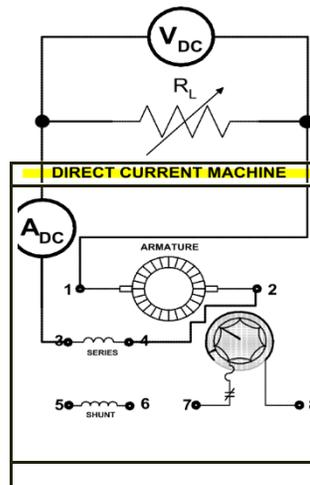

FIGURE 12.12
Step 3: a) Using your EMS DC Motor/Generator, DC Metering and Resistance Modules, connect the circuit shown in Figure 12.12.